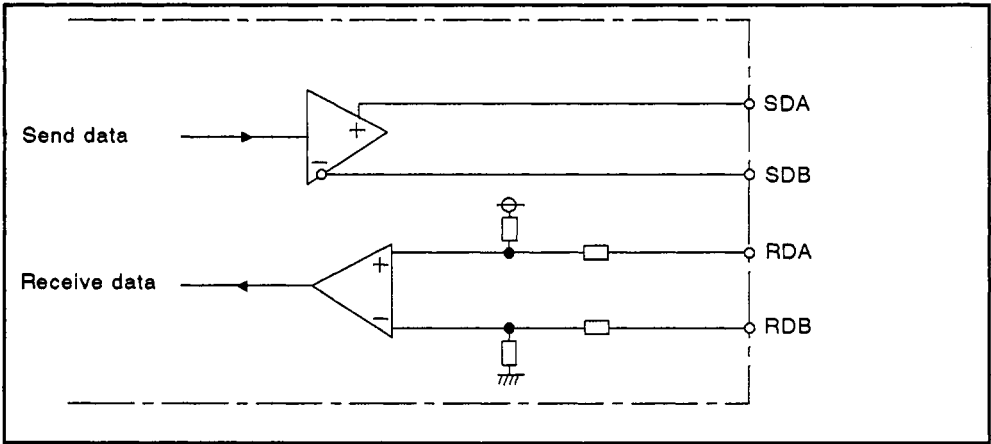

Fig. 13.2 Function Block Diagram of the RS-422/485 Interface
(2) Fig. 13.2 shows a function block diagram of the RS-422/485 interface.